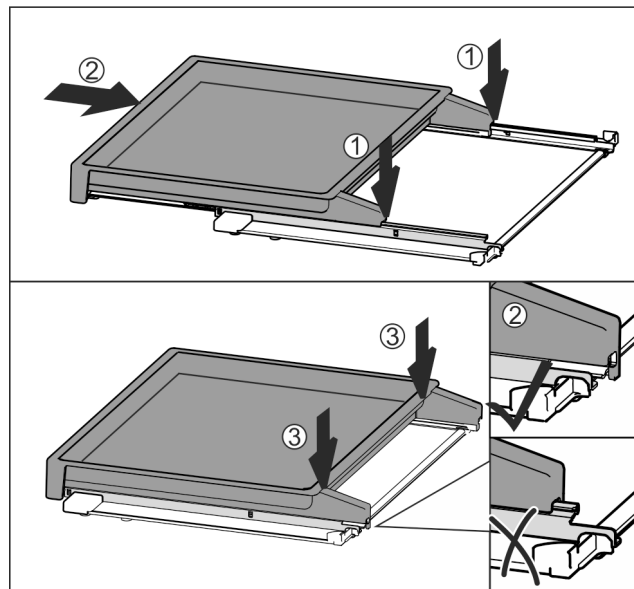

Fig. 41
- Place centrally on the rails Fig. 41 (1).
- Slide the pull-out board all the way in Fig. 41 (2).
- Press down at the back until it clicks into place Fig. 41 (3).